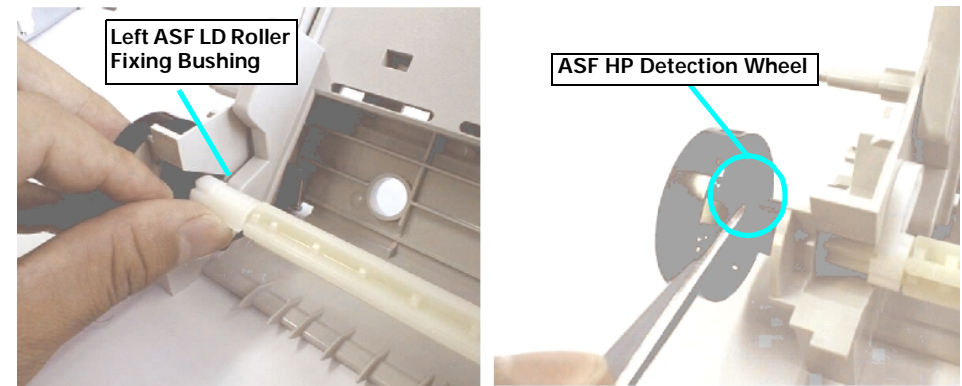

Figure 4-27. ASF LD Roller Fixing Bushing and ASF HP Detection Wheel
3. Shift the Left ASF LD Assembly on the left to the center and remove the Left ASF LD Roller Shaft Fixing Bushing (white). (Refer to Figure 4-27.)
4. Push the LD Roller Shaft to the left and remove the ASF HP Detection Wheel from the end of the shaft. (Refer to Figure 4-27.)